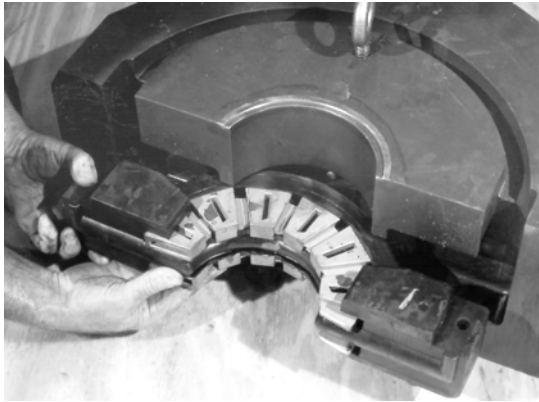

Figure 4-22. Remove Face Seal
- Using a screwdriver, pry the face seal out of the ram block (see Figure 4-22).